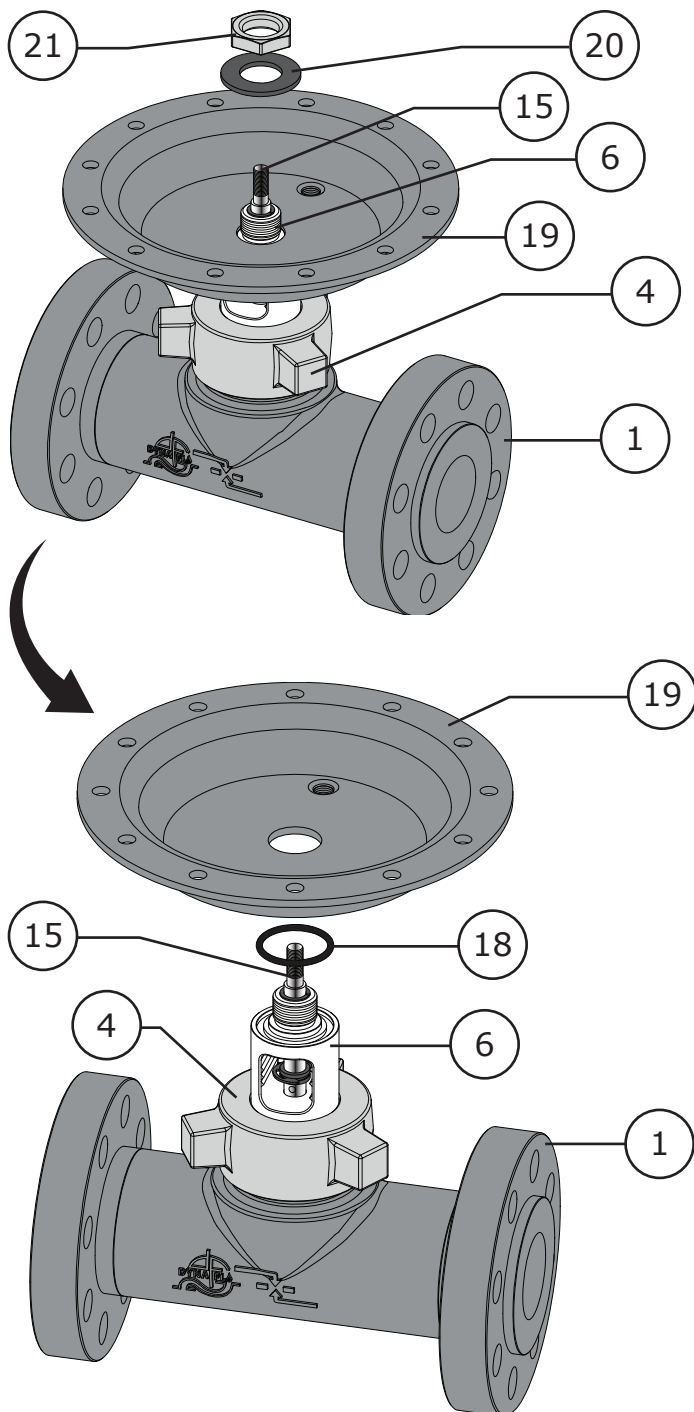

Figure 14 For Fail Closed Actuator (Steps 7 to 10)
- 7** Use a 1-1/2" deep socket or wrench to remove the bonnet lock nut (Key 21). Refer to Figure 14.
- 10** Using a mechanic pick, remove the casing o-ring (Key 18) from the top of the valve bonnet (Key 6). Refer to Figure 14.
- 7 Use a 1-1/2" deep socket or wrench to remove the bonnet lock nut (Key 21). Refer to Figure 14 on Page 13.